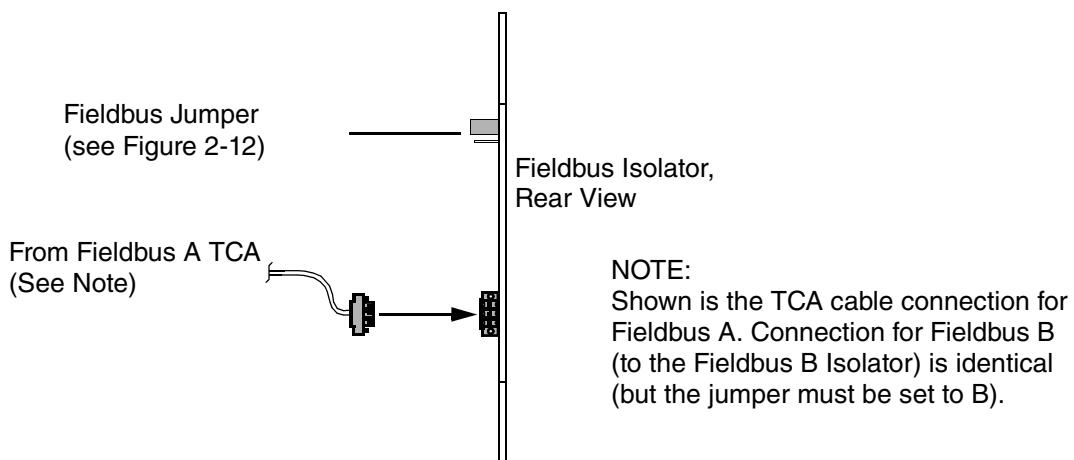

Figure 2-43. Connecting the TCA Cables to the Fieldbus Isolators
2. Connect the fieldbus splitter/terminator (P0926LC) to the “Fieldbus and Time Strobe” connector on the FCM100E baseplate (see Figure 2-43).
5. Make the cable connections from the TCAs to the Fieldbus Isolators, as shown in Figure 2-43.